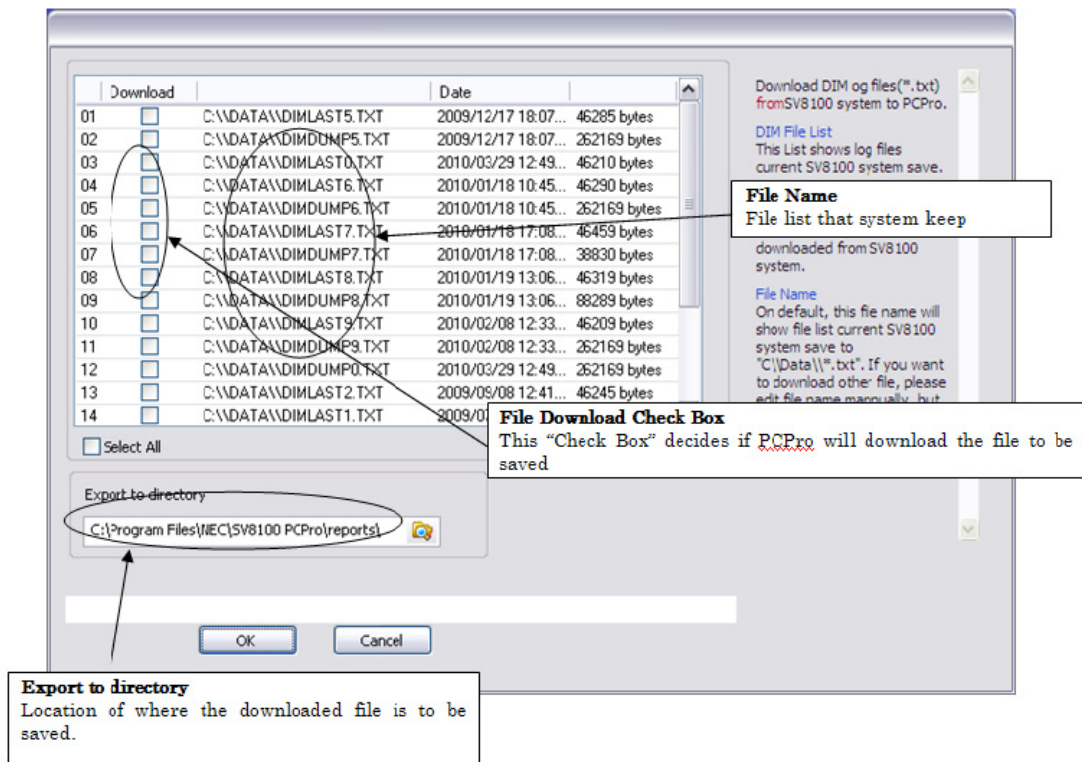

Figure J-2 DIM File Download Dialog Box
1. From the PCPro toolbar, select **Communications > Maintenance > DIM File Download**. A DIM File Download dialog box appears, Figure J-2 - DIM File Download Dialog Box.